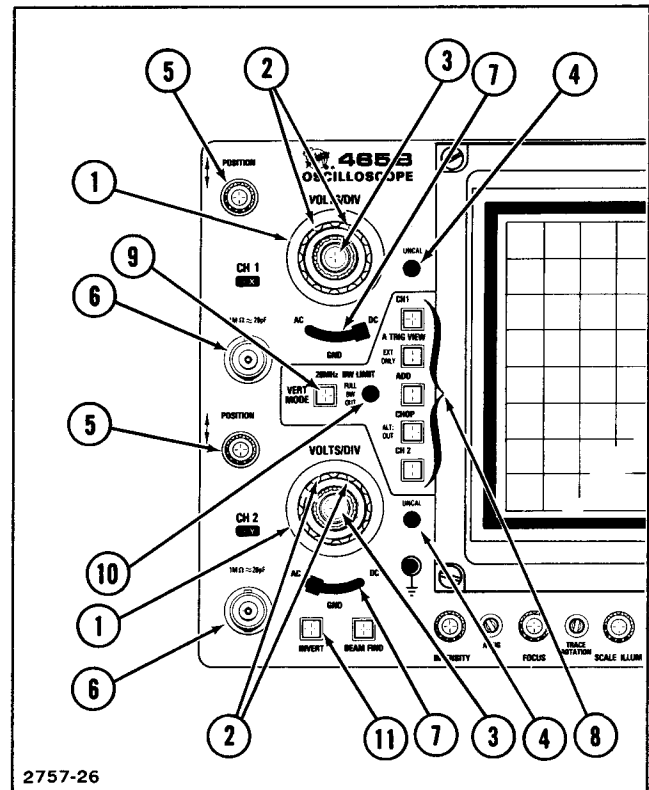

Figure 2-3. Vertical controls, connectors, and indicators.
The major controls, connectors, and indicators for operation of the 465B are located on the front panel of the instrument. A few auxiliary functions are provided on the rear panel. Figures 2-3 through 2-7 show the front and rear panels of the instrument with the controls, connectors, and indicators called out. The circled numbers correspond to the discussions about particular controls, connectors, and indicators. If your instrument is equipped with a DM44 Digital Multimeter, refer to either the 465B/DM44 Operators Manual or the DM44 Service Manual for descriptions of DM44 controls, connectors, and indicators.
Refer to Figure 2-3 for location of items 1 through 11.
- ① **VOLTS/DIV Switches**—Select the vertical deflection factor for Channel 1 and Channel 2 in a 1-2-5 sequence. VAR control must be in the calibrated detent to obtain a calibrated deflection factor.
- ② **VOLTS/DIV Readouts**—Consist of two light emitting diodes (LED) for each channel, located beneath the skirt of each VOLTS/DIV knob. One LED or the other will light to indicate the correct deflection factor. The 10X LED is illuminated only when a 10X probe with a scale-switching coding-ring contact is connected to the input of the oscilloscope; otherwise, the 1X LED is illuminated.
- ③ **VAR**—Provides continuously variable uncalibrated deflection factors between the calibrated settings of the VOLTS/DIV switches.
- ④ **UNCAL Indicator**—A LED that lights when the VAR VOLTS/DIV control is out of the calibrated detent, and the vertical deflection factor is uncalibrated.